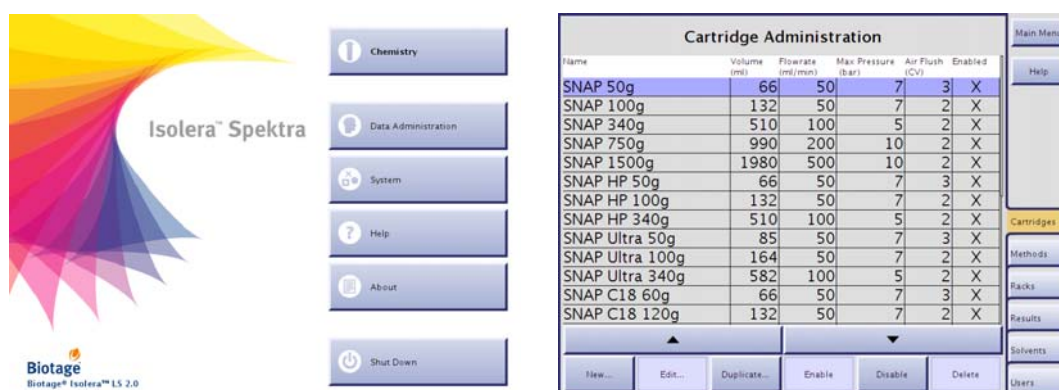

Figure 1-5. Main Menu and Data Administration Mode (Isolera LS Shown)
In the Data Administration mode, the software is divided into six (6) tabs that can be accessed in the right-hand panel (see Figure 1-5). Here is a short description of what you can do at each tab: